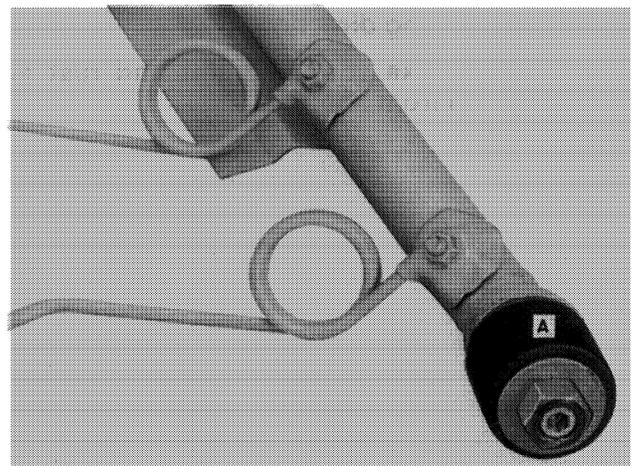

FIGURE 14
3. A spacer shown at A, Figure 14, can be made to remove the bearing assembly from the tine bar. Use a spacer that measures 2" (5 mm) ID by $1\frac{1}{2}$ " (41 mm) long. Then install a flat washer over the spacer and install the tine bar bearing nut. Turn the nut to remove the bearing.